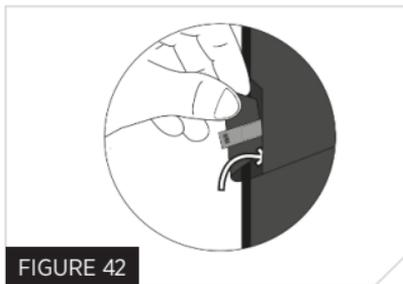

FIGURE 42
21. Insert the breakout tab into the breakout garage to secure the breakout point (Fig. 42).